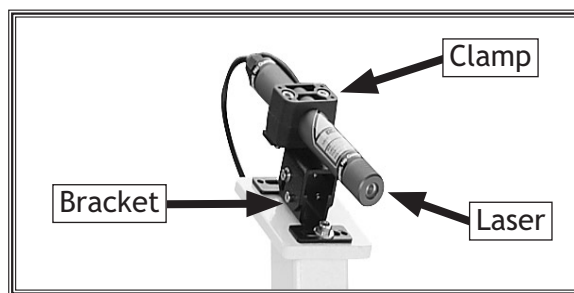

Figure 19. Laser guide attachment to the top of the steel arm.
4. Mount the laser bracket to the top of the steel arm with the (2) M6-1 x 16 cap screws and flat washers (see **Figure 19**).
5. Place the laser clamp around the laser and secure the assembly to the laser bracket with the (2) M6-1 x 35 cap screws.
6. Attach the black power box to the rip saw with the (2) M5-.8 x 8 Phillips head screws.